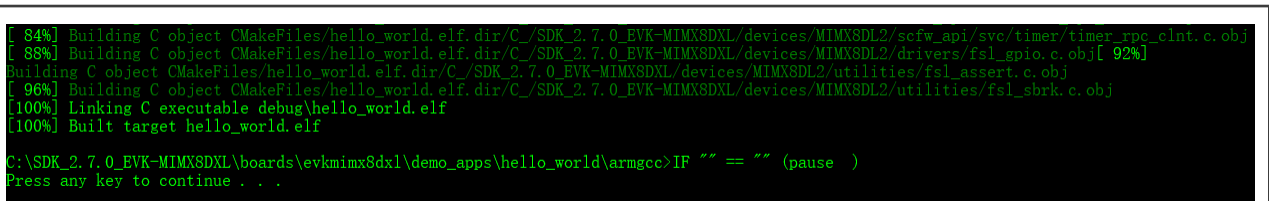

Figure 17. hello\_world demo build successful
3. Type **build\_debug.bat** on the command line or double click on the *build\_debug.bat* file in Windows Explorer to perform the build. The output is as shown in Figure 17.